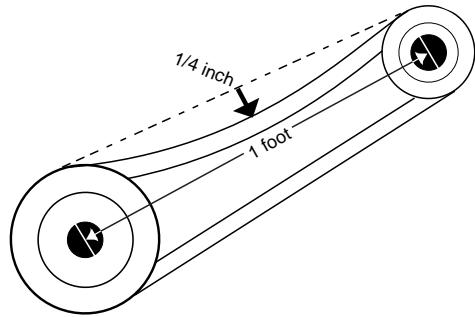

Figure 1
- Adjust the motor plate until proper tension is reached. For proper tension, a deflection of approximately 1/4" per foot of center distance should be obtained by firmly pressing the belt. Refer to Figure 1.